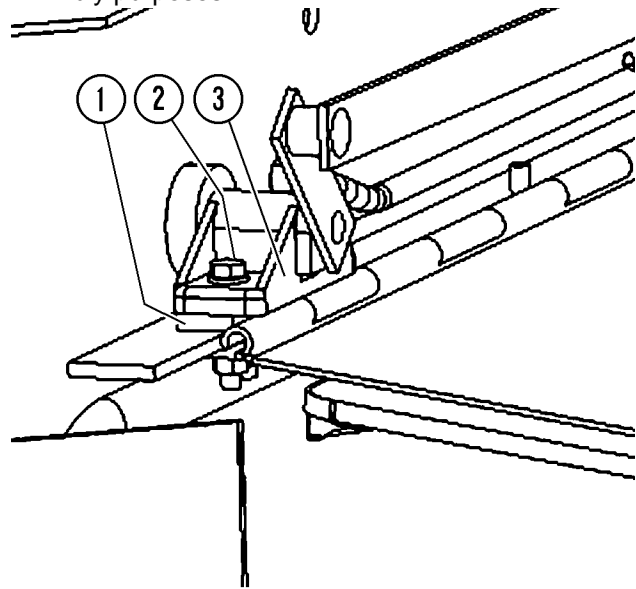

FIGURE 3-4. PILLOW BLOCK INSTALLATION
4. If equipped, remove four capscrews (2, Figure 3-4), the washers, and the nuts that secure pillow blocks (3). Remove spacer blocks (1). Note the orientation of the spacer blocks for assembly purposes.
2. If equipped, place spacer blocks (1, Figure 3-4) into position under pillow blocks (3). Install capscrews (2), the washers, and the nuts that secure the pillow blocks.